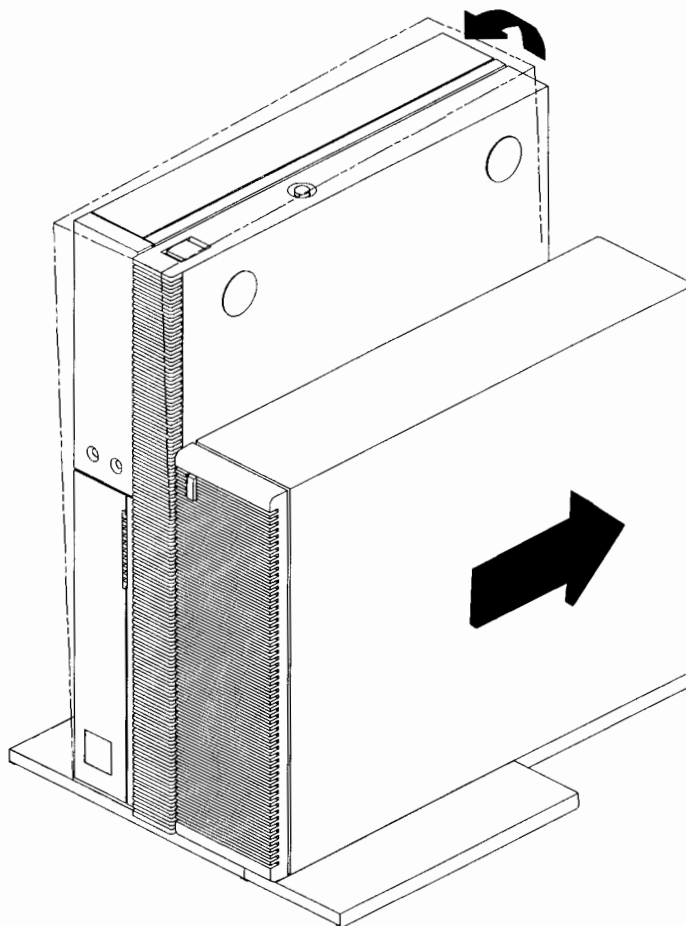

Figure B-1. Disconnecting the Optional External Graphics Processor
3. Disconnect and remove the optional graphics processor (if installed). If your workstation is installed in the deskside (standing) configuration, remove the graphics processor from the floor stand. Lift the rear of the system unit slightly while sliding the graphics processor back as shown in Figure B-1.